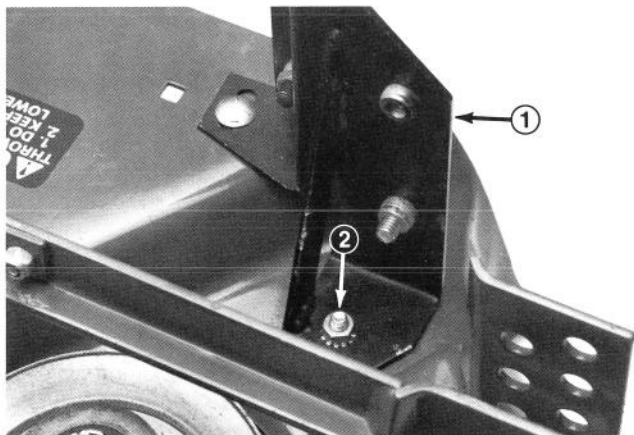

Figure 6
7. Using rear blower bracket as a template, mark and drill remaining 3/8 in. diameter mounting hole in deck (Fig. 6). To allow the 5/16-18x5/8 bolt to be assembled through the rear bracket from the top, remove the blower from the brackets (Fig. 6).